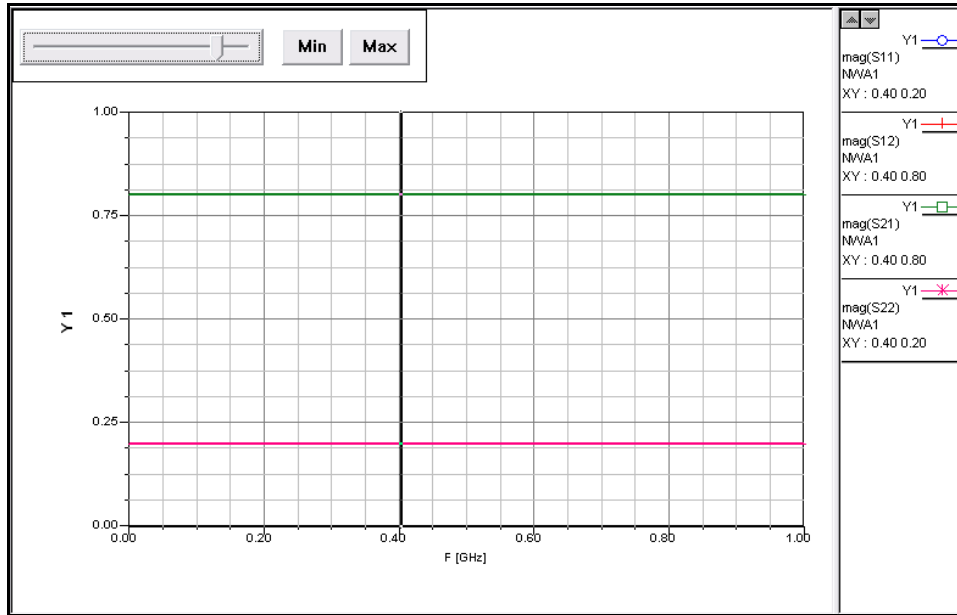

Figure 19. $|S_{11}|$, $|S_{12}|$, $|S_{21}|$ and $|S_{22}|$
3. Save and run your file to display the magnitude and angle of the **S Parameters** for a frequency range of 1 MHz to 1 GHz with 1000 points per decade. Change your scales for the y-axis to match Figs. 19 and 20. If you have a hard time clicking on plot so that you can change the thickness of the plot, you might want to try double clicking on the symbol of the graph on the far right side.
Also shown in Figs. 19 and 20 is the option **Mark All Traces** which is found by right clicking anywhere on the graph. The vertical black cursor can be moved with the slide at the top of the graph. Do this to re-create Figs. 19 and 20. These results match the calculated results found in the class notes on page 72.
Print a copy of Figs. 19 and 20 for each member of your lab group and include as indicated in the Lab Report.
4. Change the characteristic impedance of port 1 to a value of $75\ \Omega$ and port 2 to $600\ \Omega$. If you display the plot shown in Fig. 19, there are crosses through each parameter on the right. The reason for this is that we have changed the schematic and our former plots are no longer valid. Re-run by clicking the **Analysis** button and the crosses should disappear.
Print a copy of the new Figs. 19 and 20 for each member of your lab group and include as indicated in the Lab Report.